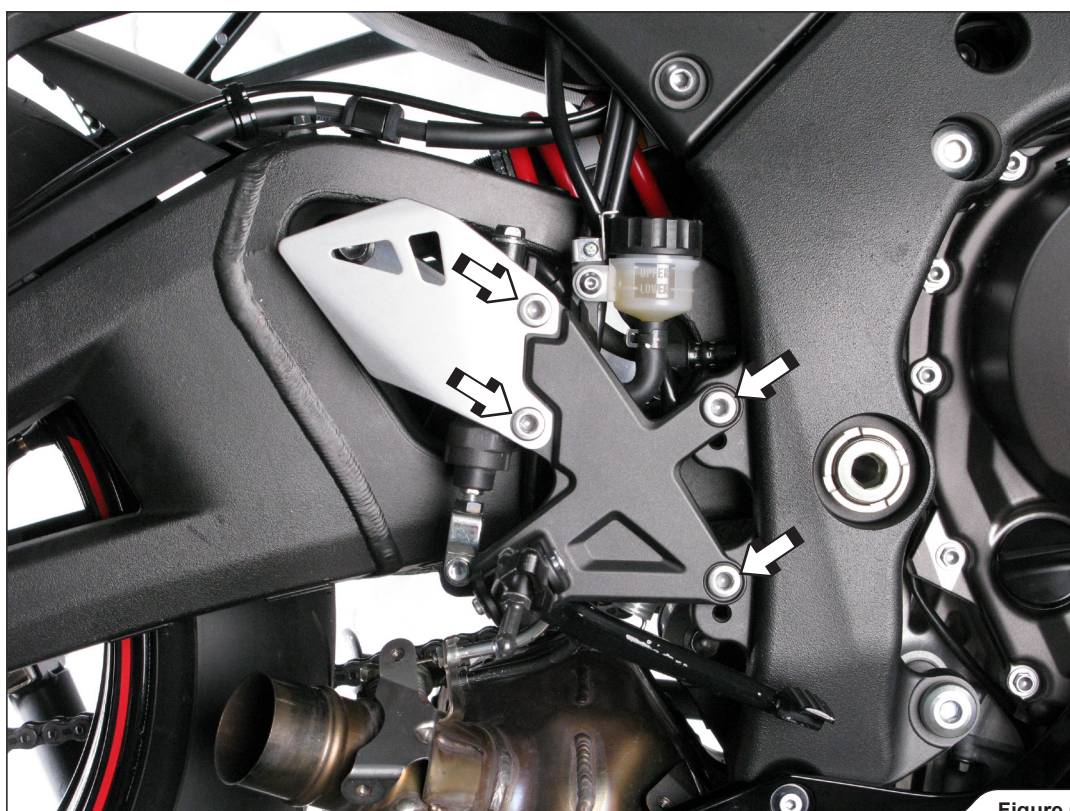

Figure 6
6. **For optional link pipe only:** unscrew the foot peg and foot guard, to release the exhaust valve cables (Figure 6).